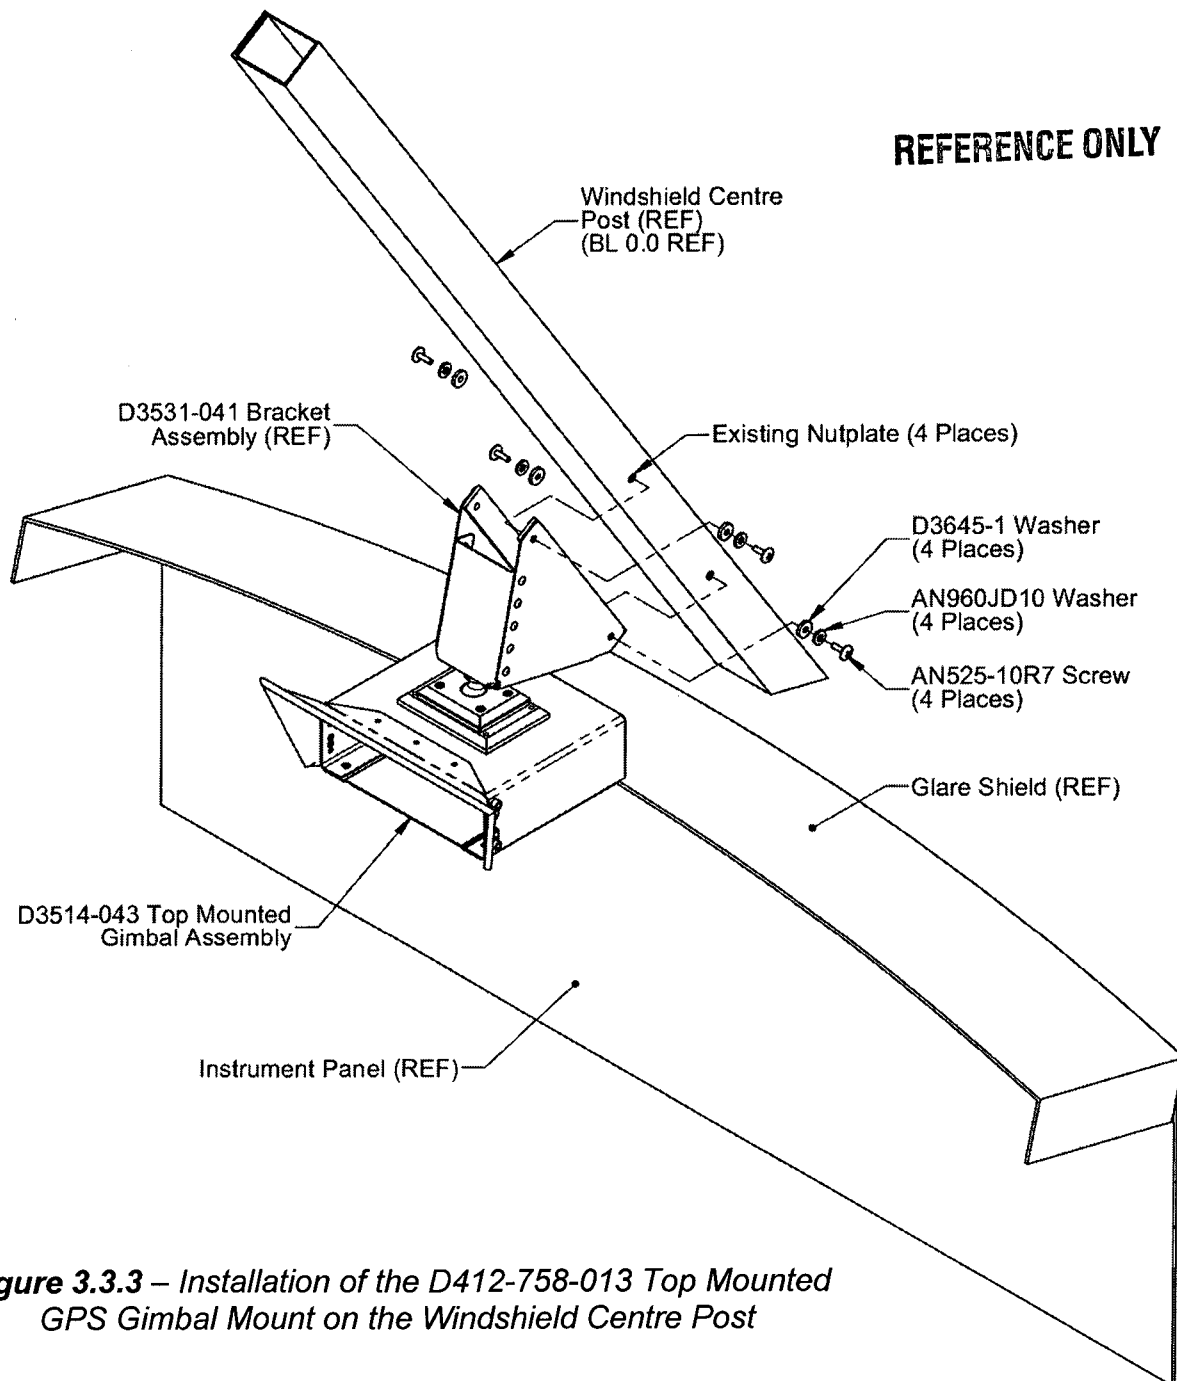

Figure 3.3.3 – Installation of the D412-758-013 Top Mounted GPS Gimbal Mount on the Windshield Centre Post
- 3.3.5 Install the D3514-043 Top Mounted Gimbal Assembly on the windshield centre post using qty(4) AN525-10R7 screws, qty(4) AN960JD10 washers and qty(4) D3645-1 Washers as shown in **Figure 3.3.3**. Pick up on the existing nutplates mounted on the inside of the windshield centre post. Torque the bolts to 15-25 in-lbs (1.7-2.8 Nm).